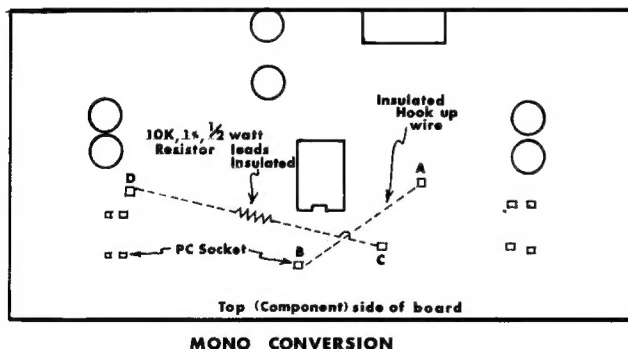

Fig. 1
1. On the exposed circuit board, locate printed circuit sockets A, B, C, and D (Fig. 1), being careful to distinguish them from other sockets on the board.